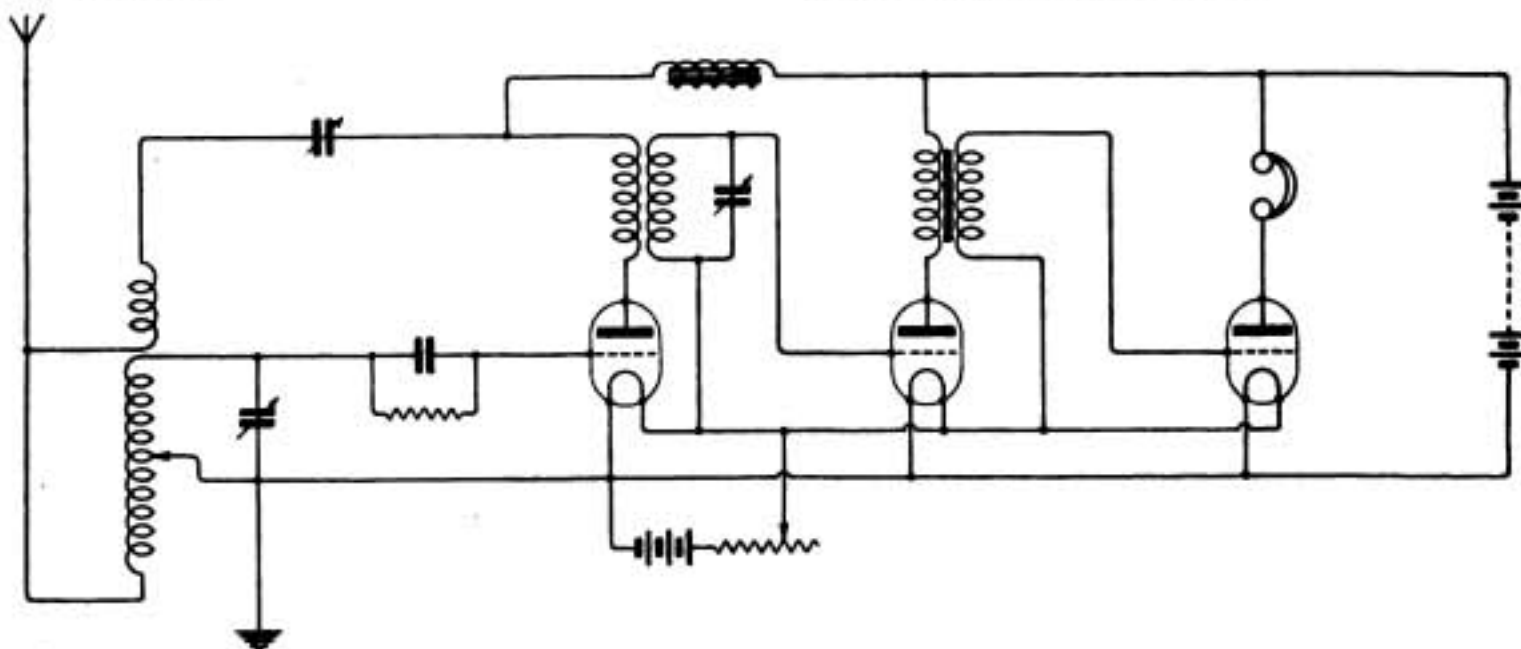

Fig. 2.
(1) We have no information on a modification of this set in this way, but think the scheme outlined in the diagram (Fig. 2) should be satisfactory. (2) We doubt if sufficient strength for a loud speaker would be obtained at this distance. (3) We believe that the restrictions are still enforced, but the requirements of the P.M.G. are not finally decided as yet. (4) Yes, up to reasonably high values of wavelengths. We should not recommend this circuit for very long wavelengths above, say, 5,000 metres.
(1) We cannot say without test. Everything appears O.K. (2) You do not give us enough information to enable us to say. (3) It should receive ship sets up to 100 miles. (4) Rearrange as in Fig. 2, page 369, issue for June 17th.
(1) No. See Fig. 2, page 405, issue for June 24th. (2) This circuit might be used, but is very poor. See many diagrams in these columns for a better one. (3) No, it is not so strong mechanically. (4) Yes, if it has water in it.